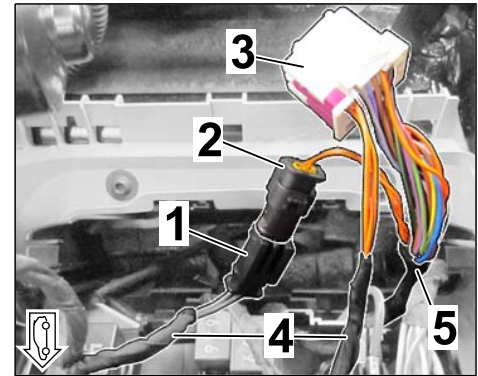

Figure 29
2.5.5 Change pin assignment of lines OG/BN / OG/BK in the connector (17-pin, white) as follows (⇒ *Figure 29*):